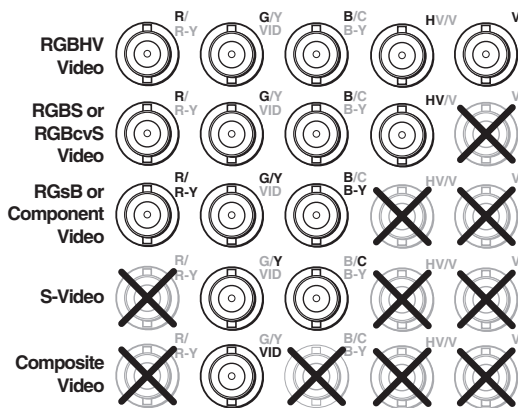

Figure 2-3 — Connections for various input video formats
- ② **Input 1 through Input 4 video connectors** — Connect computer or RGB video, component video, S-video, or composite video to these female BNC connectors. Figure 2-3 shows how to connect the various video formats.